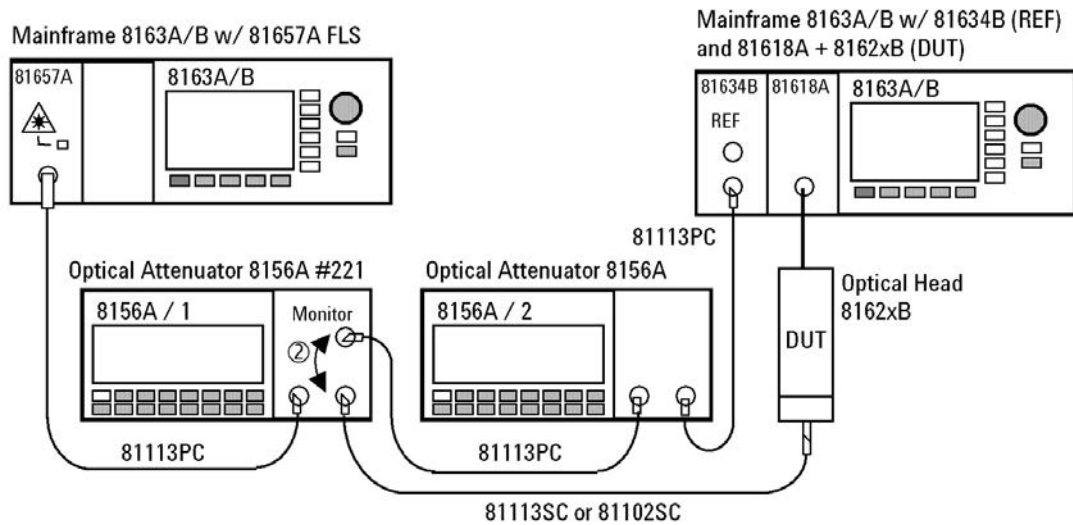

Figure 3 Measurement Setup for Power Linearity
- 3 Setup the equipment as shown in **Figure 3** . Disable both attenuators and enable the laser source, where the source wavelength is chosen to 1550 nm. If you are using the 81657A, move to the wavelength parameter, [I], press *Enter*, select the longer wavelength source (1550 nm nominally), and press *Enter*.